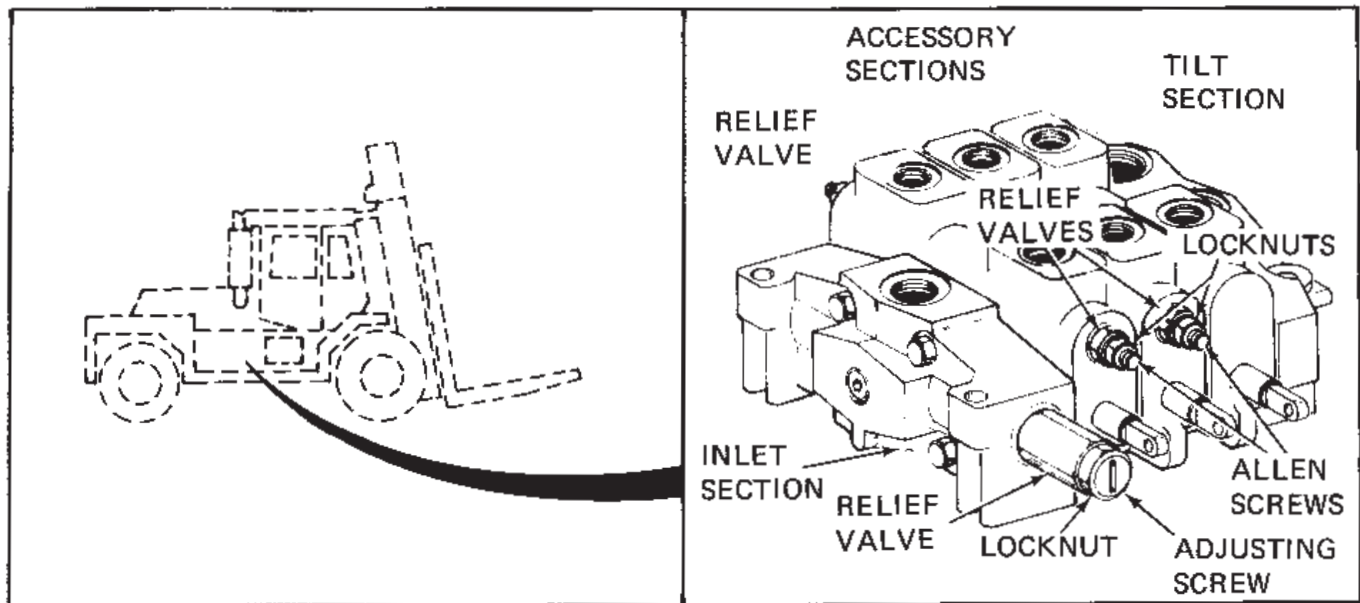

Figure A-3. Tilt and Accessory Valve Location and Adjustment
- c. Loosen the locknut on the relief valve on the inlet section of the tilt and accessory valve (see Figure A-3).
c. Loosen the locknut on the relief valve on either end of the accessory section requiring a pressure adjustment (see Figure A-3).